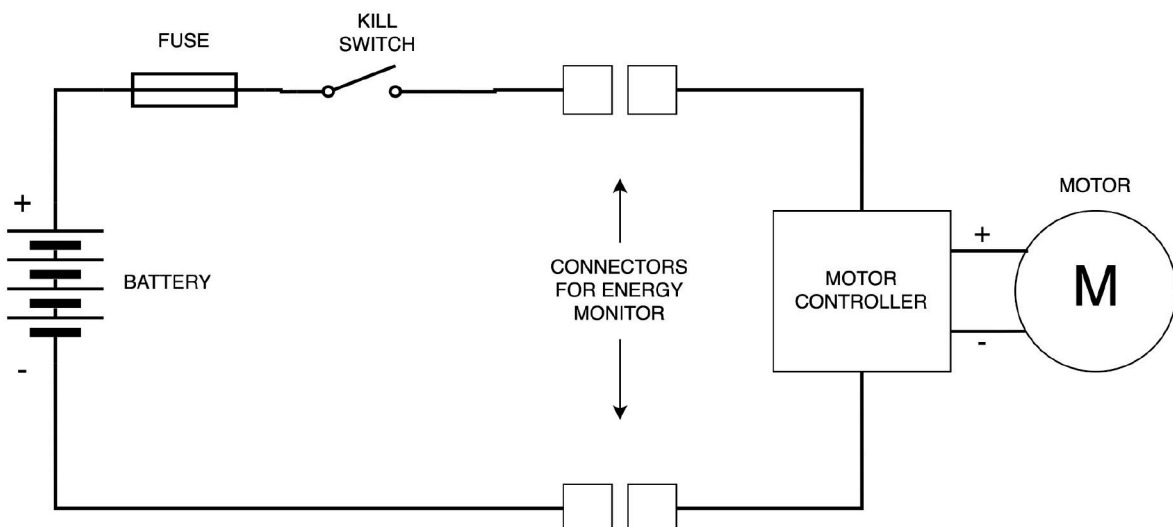

Figure 4: Basic circuit diagram highlighting the minimum required components in an EVelocity vehicle electrical system (not including throttle wiring).
- VR.10.8 A basic single line diagram of the electrical system, showing the minimum required components is shown in Figure 4. The connectors for the energy monitor may have positive and negative leads in the same connector; they are shown separately in the diagram for simplicity.